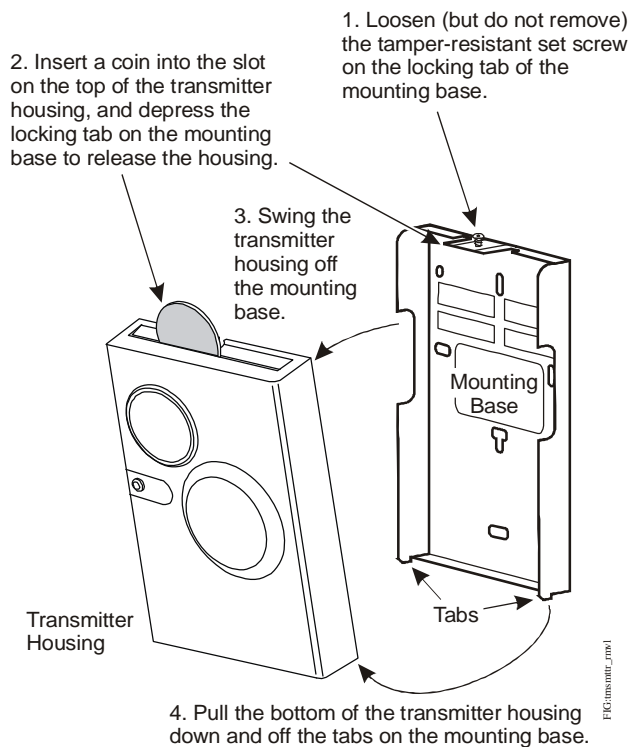

Figure 2: Removing the Transmitter Housing from its Mounting Base (Reverse the Steps to Reinstall the Housing)
5. Remove the transmitter housing from its mounting base (Figure 2).
7. Reinstall the transmitter housing on its mounting base by reversing the steps illustrated in Figure 2.